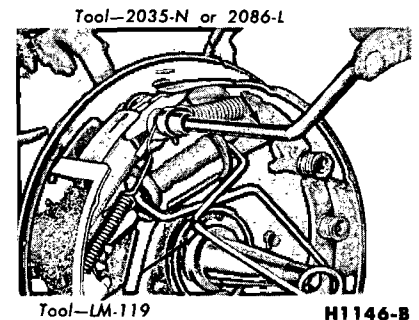

FIG. 13—Retracting Spring Removal—Typical
1. With the wheel and drum removed, install a clamp over the ends of the wheel cylinder as shown in Fig. 13.
2. Remove the brake retracting springs using Tool 2035-N or 2086-L (Fig. 13).